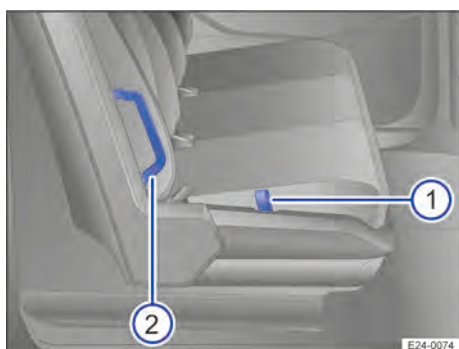

Fig. 74 Flexible partition in bench seat position.
1. Pull and hold the loop → Fig. 74 ❶.
2. Pull the bench seat forwards using the handle → Fig. 74 ❷.
2. Pull and hold the loop → Fig. 74 ❶.
3. Pull the bench seat backwards using the handle → Fig. 74 ❷ and press down.